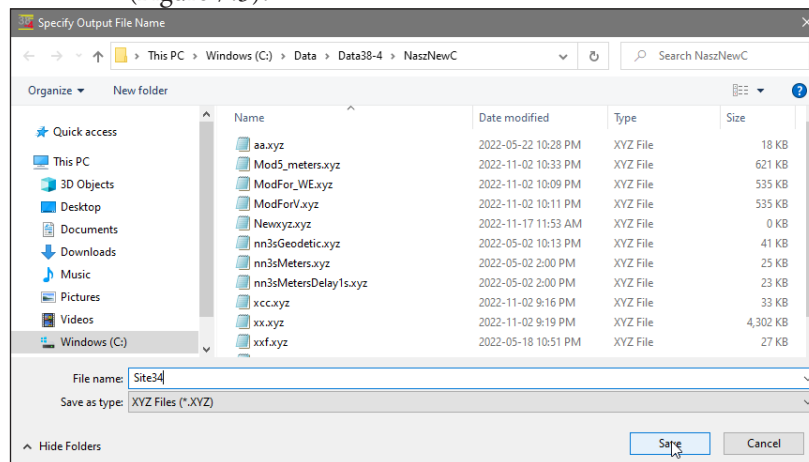

Figure 7.3 Select XYZ File Name window
- Click the **Output File** button. The **Select XYZ File Name** window appears (Figure 7.3).